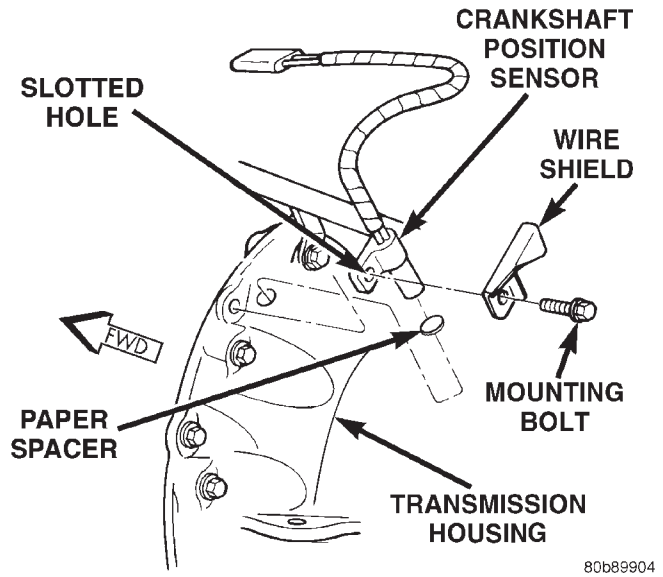

Fig. 29 CKP Sensor—4.0L 6-Cylinder Engine
The Crankshaft Position (CKP) sensor is mounted to the transmission bellhousing at the left/rear side of the engine block (Fig. 29). The sensor is **adjustable** and is attached with one bolt. A wire shield/router is attached to the sensor (Fig. 29).
- (1) New Sensors: Be sure paper spacer is installed to bottom of sensor. If not, obtain spacer PN05252229.
- (2) Used Sensors: Clean bottom of sensor and install spacer PN05252229.
- (3) Install sensor into transmission bellhousing hole.
- (4) Position sensor wire shield to sensor (Fig. 29).
- (5) Push sensor against flywheel/drive plate. With sensor pushed against flywheel/drive plate, tighten mounting bolt to 7 N·m (60 in. lbs.) torque.
- (6) Route sensor wiring harness into wire shield.
- (7) Connect sensor pigtail harness electrical connector to main wiring harness.